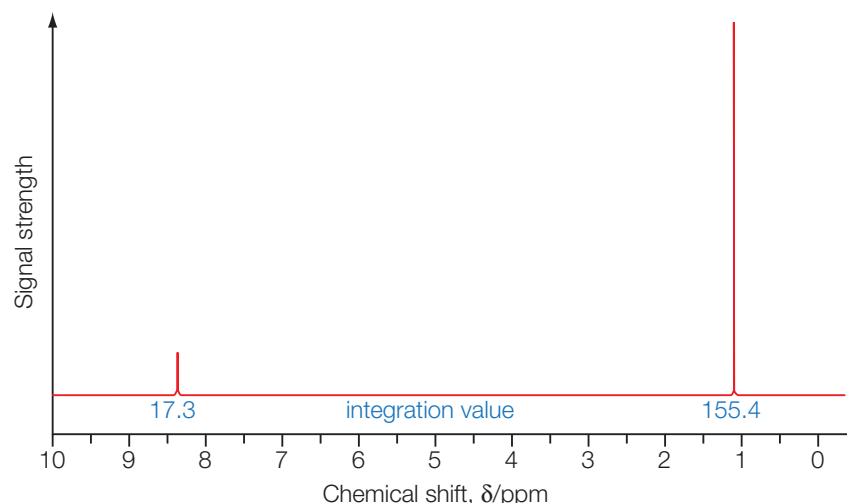

Figure 9.9 ◀
Alternatively, the instrument's computer prints a number below each peak that is a measure of the relative area under the curve – as shown for the spectrum in Figure 9.9.
- 11 Refer to the proton NMR spectrum in Figure 9.9 and the data sheet of chemical shifts.